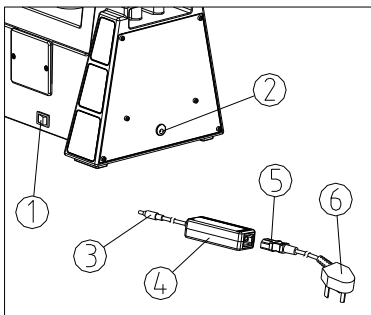

Fig. 9
(1) Make sure the main power switch① is at "O" (OFF) before connect the power cord. (See Fig.9)
(2) Insert the plug③ of external power supply④ into power supply socket②, and make sure it is connected well.
(3) Insert the plug⑤ of the power cord into power supply socket of external power supply④, and make sure it is connected well.
(4) Insert the plug⑥ of the power cord into power supply socket, and make sure it is connected well.